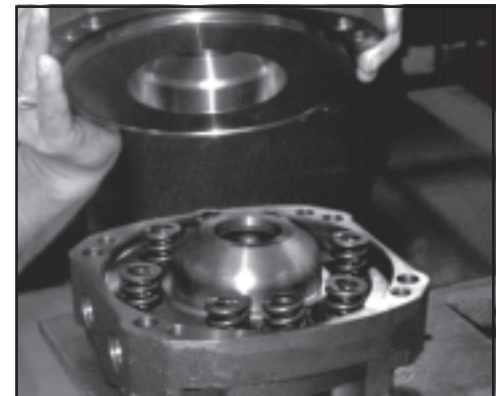

Figure D6
- 7. The internal components of the brake will now be exposed. *The case seal o-ring will be attached to the motor flange pilot. SEE FIGURE D6*